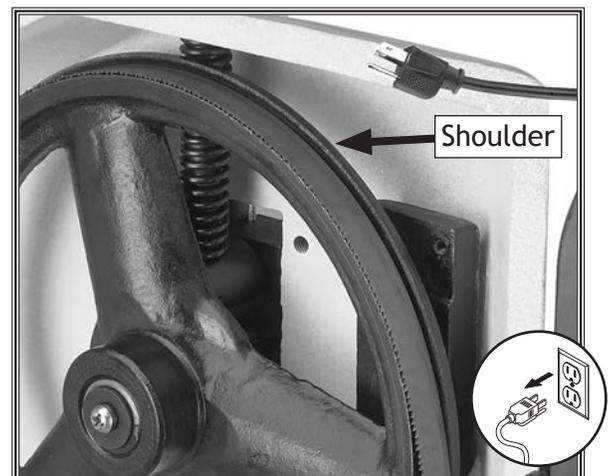

Figure 43. Blade installed on top wheel.
6. When blade is around both wheels, adjust position so back of blade is against shoulder of wheels (see **Figure 43**).